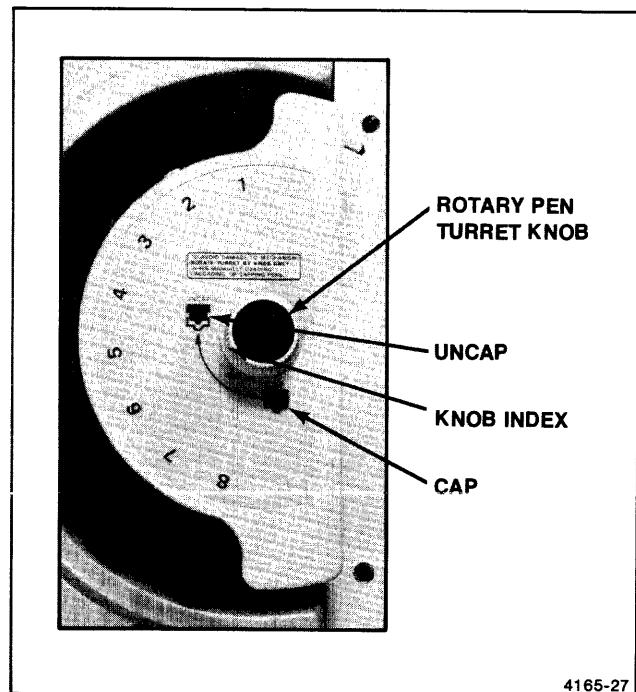

Figure 2-29. Rotary Pen Turret Knob.
The Rotary Pen Turret Knob (shown in Figure 2-29) allows the operator to manually rotate the pen turret; thus, the operator can add or remove pens as needed when the power is off. The knob has nearly 360 degrees of movement.
1. Rotate the Rotary Pen Turret Knob (see Figure 2-29) clockwise from the CAP to the UNCAP position.